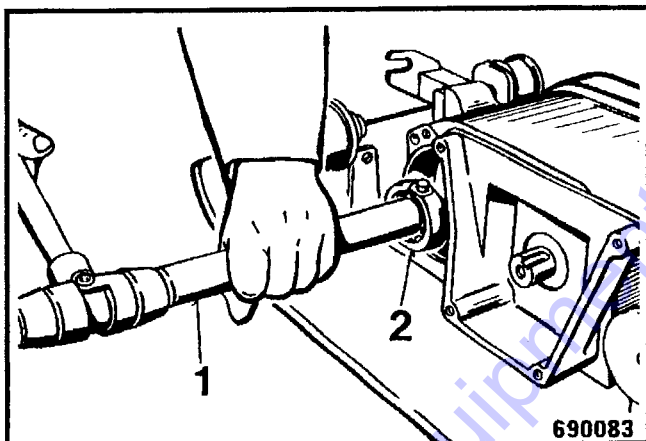

Fig. 4
- Drive the control ring onto the control shaft by using a punch 1 (Fig. 4).